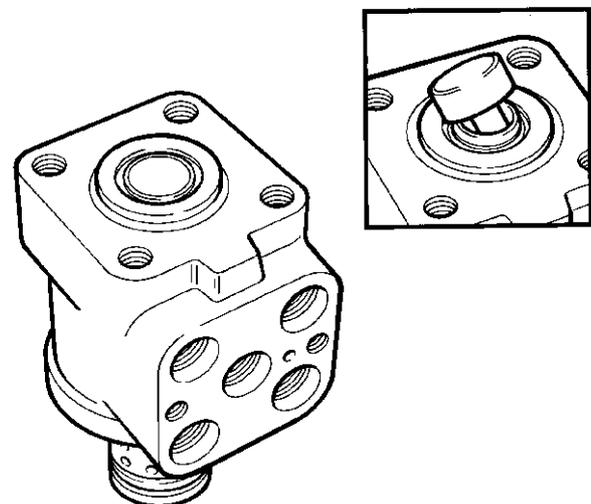

Fig 76.
**Note:** The unit illustrated in the following sequence represents a typical hydraulic steer valve. The relief valve (items 25 to 28) and shock valves (items 29 to 35) are not therefore shown in the following illustrations.
- 6 Apply downward pressure on body until plastic boss is forced out of bore, leaving seals correctly located, ⇒ Fig 76. \(□ H-75\).